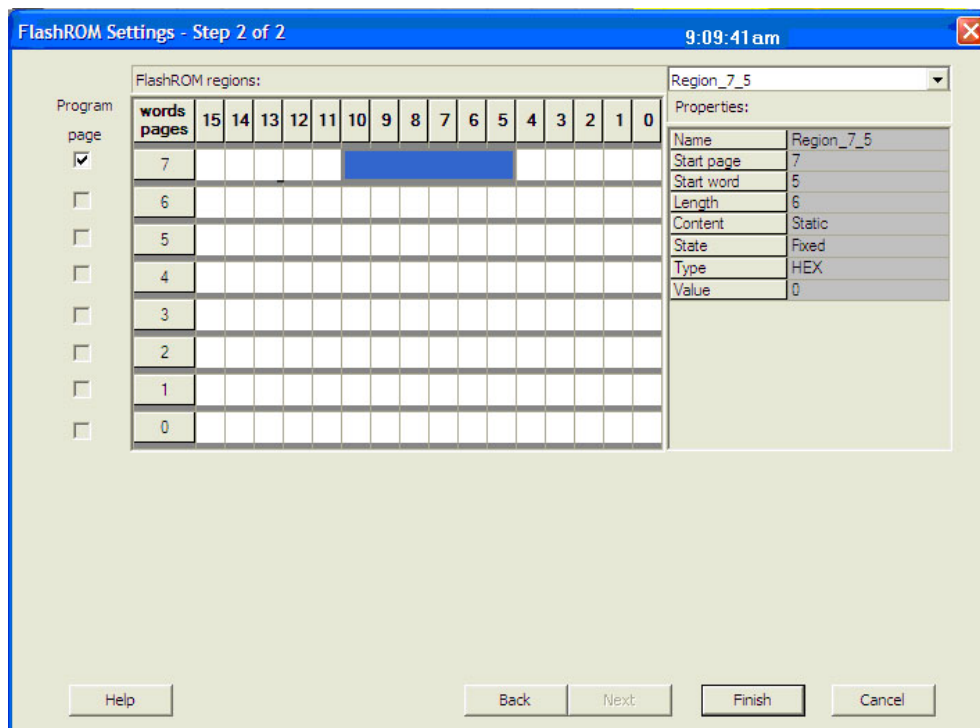

Figure 10-13 • FlashROM Configuration Settings for Low Power Flash Devices
- Choose the desired settings for the FlashROM configurations to be programmed (Figure 10-13). Click **Finish** to generate the STAPL programming file for the design.